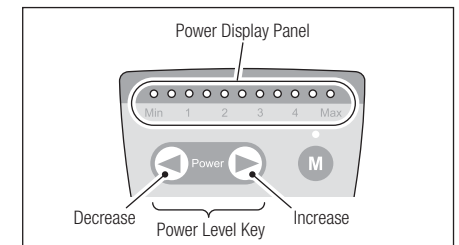

Fig. 18
- 2) Set the power level with the Power Level Key on the Front Panel. The lamps in the Power Display Panel will indicate the selected power level. Make sure the power level is set in the appropriate range for the selected Tip. (Fig. 18)